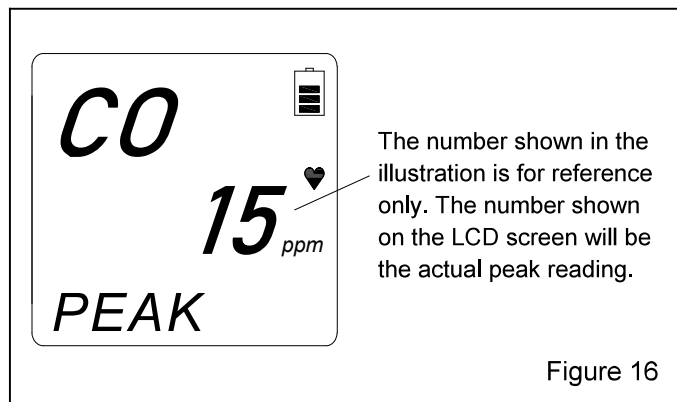

Figure 16
4.3.5.4 Press and release POWER/MODE until PEAK appears in the lower-left corner of the LCD screen, as shown in Figure 16.